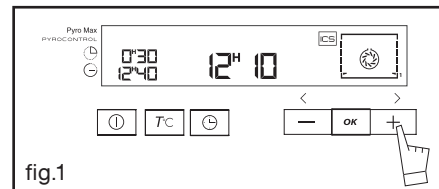

fig.1
- Press the touch control ① then use the touchpad + to select the function **ICS** (fig.1).